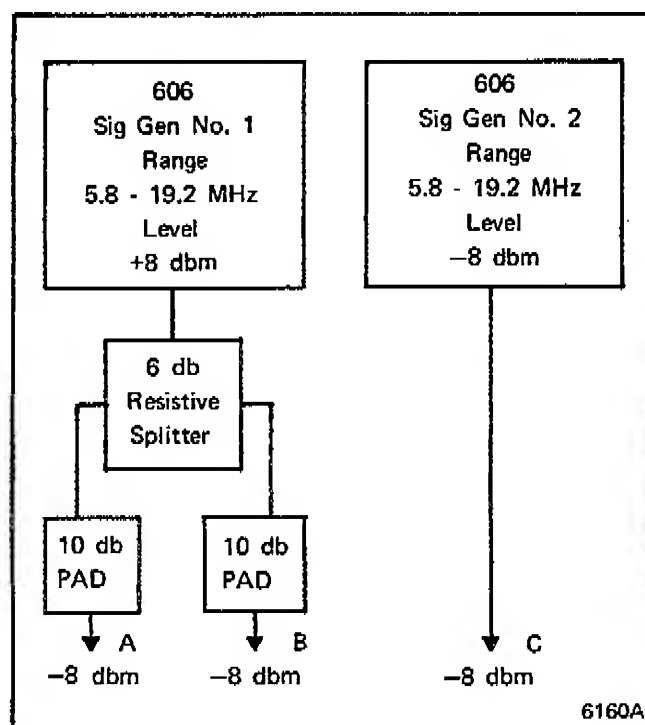

Figure 4-14. EQUIPMENT CONNECTION FOR 10 MHz D. U. MAIN PD TEST
- f. Make the test equipment connections shown in Figure 4-14.